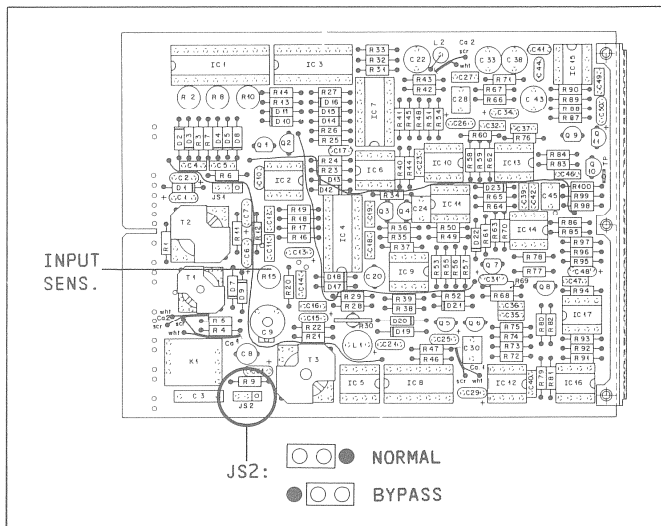

Fig. 4.7.1
- Unplug CODE DELAY UNIT, set jumper JS2 on CODE READ/WRITE UNIT to position "BYPASS" (see Fig. 4.7.1).